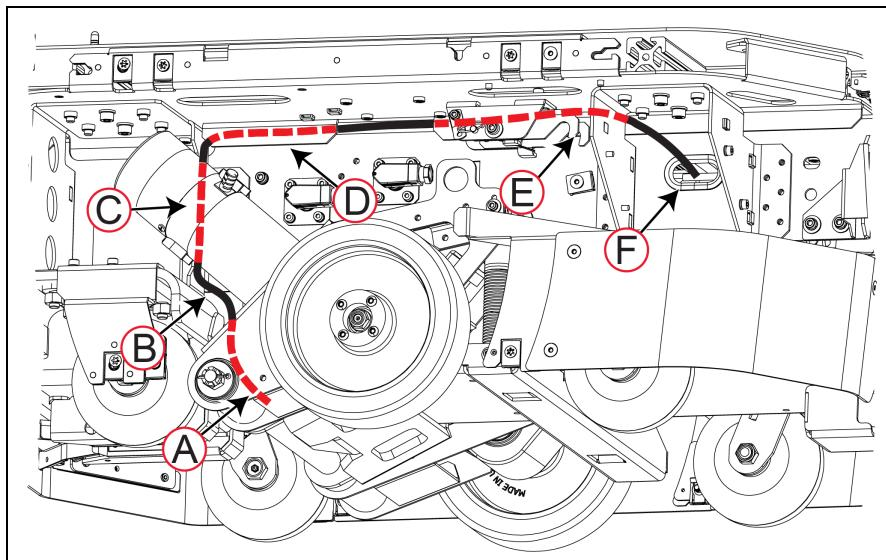

Figure 9-18 LD-250 Rear HAPS Sensor Cable Routing Into the Chassis
- (Dual Only) Route the sensor cable as shown in Figure 9-18.